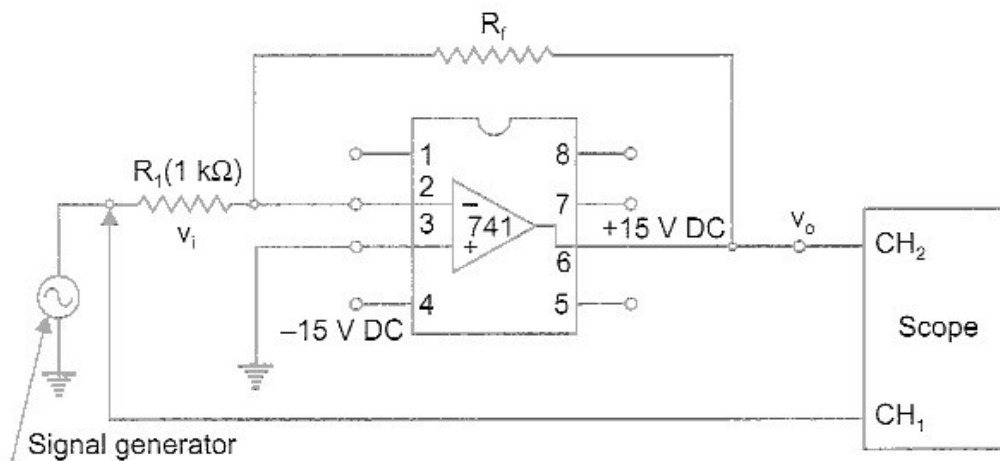

Fig. E. 2.1 (a) Inverting amplifier
- (1) Connect the op-amp as an inverting amplifier as shown in Fig. E. 2.1(a).